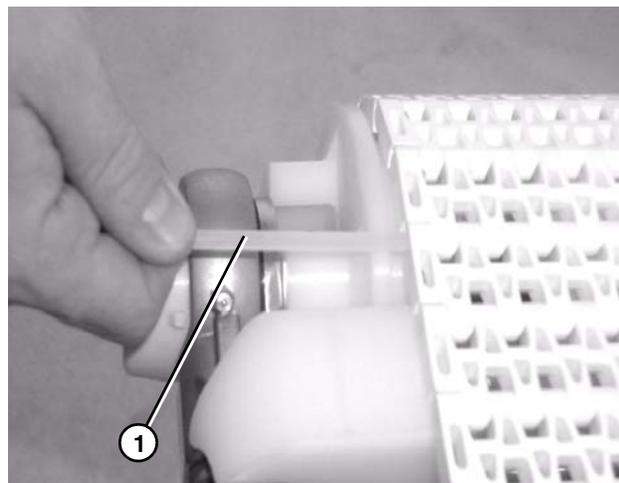

Figure 33
4. Insert the belt rod (**Figure 33, item 1**).